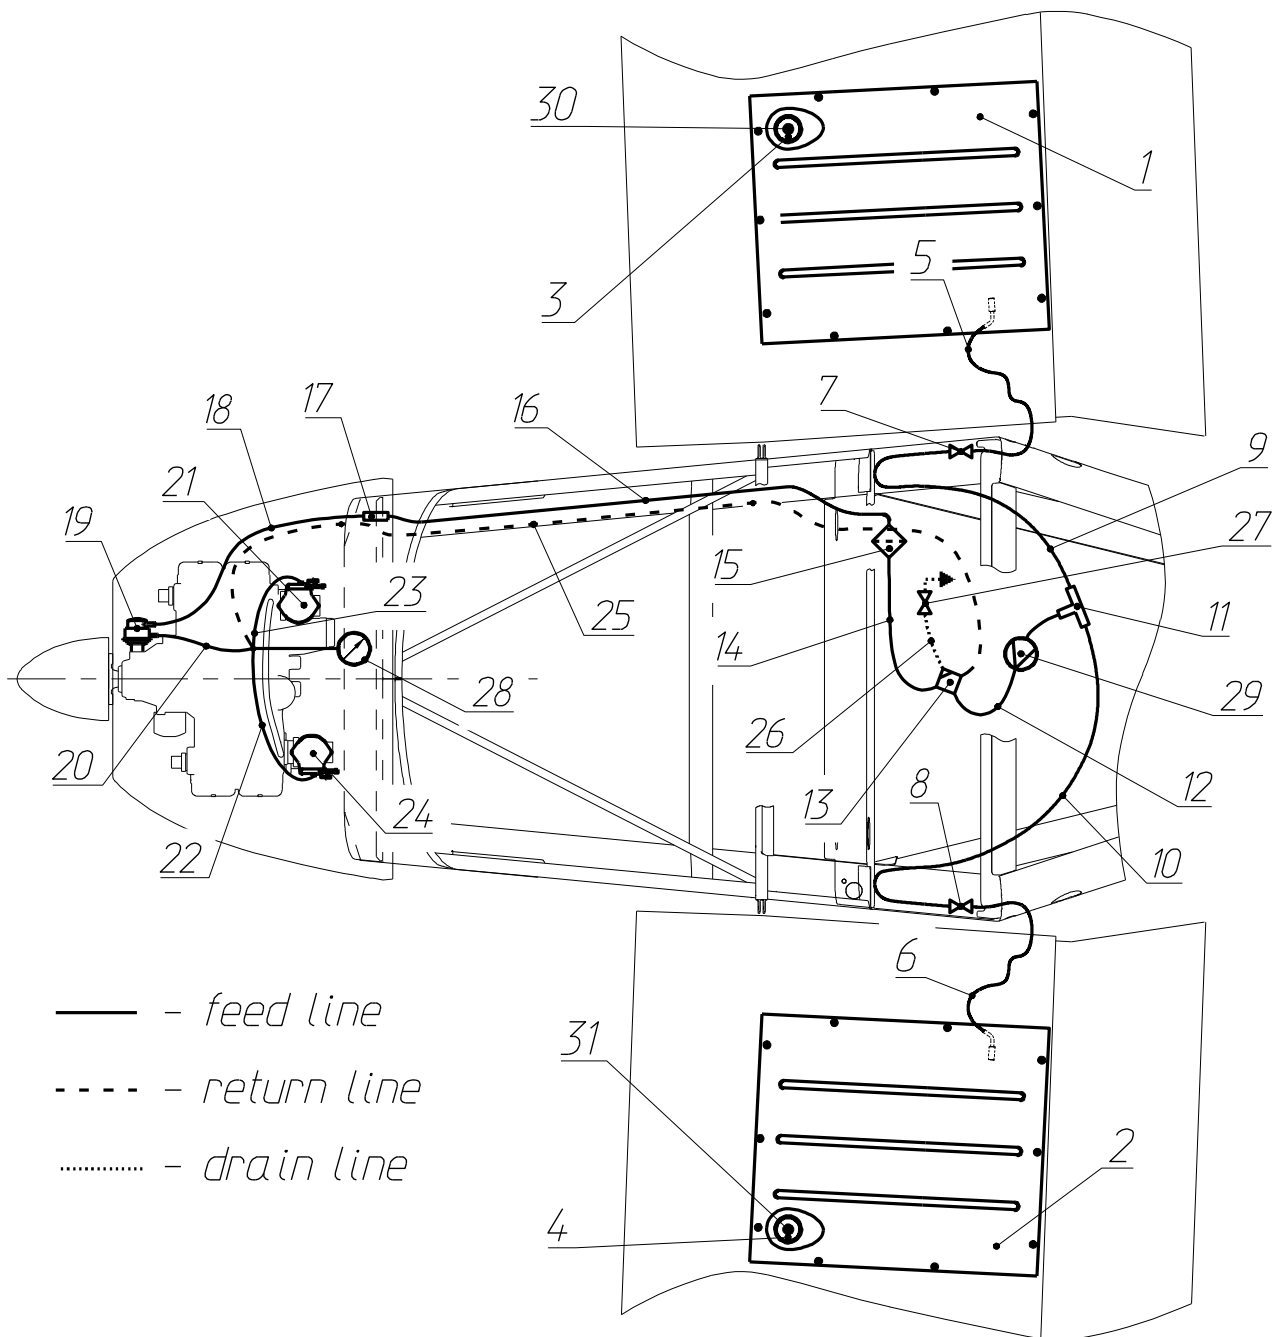

Fig. 3. Fuel system schematic
The fuel system (see **Fig. 3**) includes two wing fuel tanks (1,2), feed fuel lines (5,6,9,10,12,14,16,18,20,22,23), return line (25), two shut-off valves (7,8), fuel sediment collector (13), fuel filter (15), fuel pump (19), drain line (26) and drain valve (27). The fuel tanks are located at the wing root between the spar and aft web. The fuel inlet (3, 4) is located at the front outboard corner of the tank. The inlet cover has vent fitting (30, 31) connecting the tank volume free of fuel to the atmosphere. The fuel shut-off valves (7,8) are located on the vertical beams of the frame No.3, on the left and right sides respectively. The shut-off valve is open when its handle is set vertically and closed when the handle is set horizontally. The left and right fuel tank is connected with the fuel lines to the left and right fuel shut-off valve respectively. Further two fuel lines are joined into a single one with the T-connector (11). Then fuel comes to the sediment collector (13). The sediment collector is located behind the main landing gear beam on the bottom rear panel of the fuselage. The top outlet of the fuel sediment collector is connected to the fuel filter (15) located on the right side behind the main landing gear beam and can be inspected visually. The bottom outlet of the fuel sediment collector is connected with a fuel line (25) to the drain valve (26), located behind the main landing gear beam on bottom rear panel of the fuselage. The drain valve allows draining fuel through the hole in the bottom rear panel of fuselage. The valve handle is accessible outside fuselage. After the fuel filter the fuel line (16) runs through the main landing gear beam, seat beam along the right-hand side of fuselage to the frame No.1 where it is connected with bulkhead fitting (17) to the fuel line of the engine (18) that is connected to the inlet of the fuel pump (19) located on the right-hand side of the engine gearbox. The pump outlet is connected with the fuel lines (20,22,23) to the carburetors (21, 24). The excessive fuel is returned through the line (25) to the sediment collector (13).